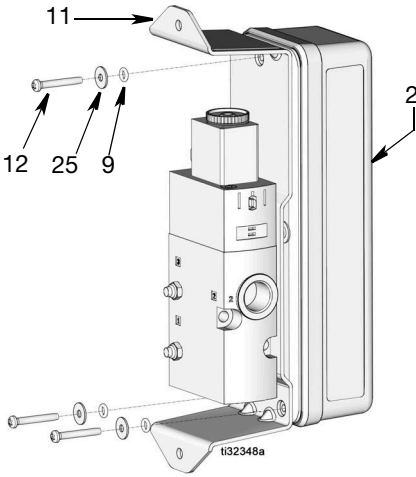

FIG. 30
3. Align PAC enclosure assembly (2) to the bracket (11). Install o-rings (9), washers (25) and screws (12) to secure bracket to enclosure (FIG. 30).